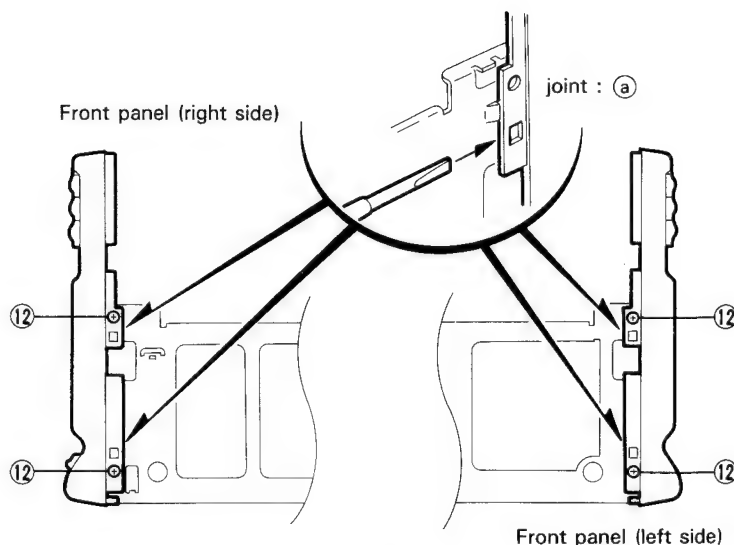

Fig. 7-13
### ■ Method of removing the front panel assembly (Refer to Figs. 7-13 ~ 7-14)
6. Remove the four conical screws (12) retaining both sides of the front panel assembly (Refer to Fig. 7-13).